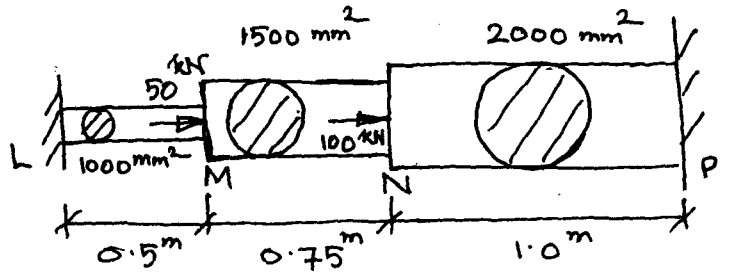

Fig. Q7
Q.7. A bar LMNP fixed at L and P is subjected to axial forces (Fig. Q7). Determine the forces in each part of the bar and the relative displacement of M and N. Take  $E = 200 \text{ GN/m}^2$ .